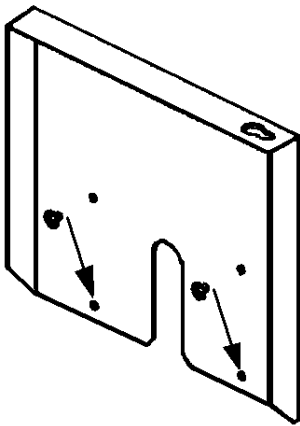

Figure 1A
2. Remove two screws that mount Side Plates R/H and L/H to Stand Base. Reposition Side Plates using two lower holes so Plates are raised from their packing position. Refer to **[Figure 1A]**. **IMPORTANT! Feeder cannot be leveled to Press unless this is done.**